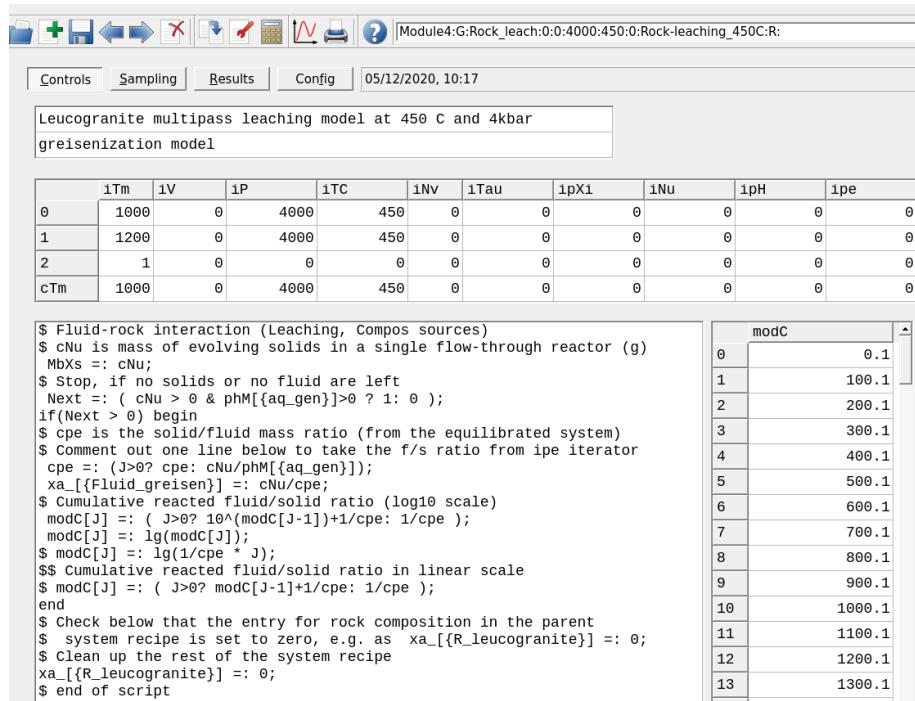

Figure 4.4: Controls window showing the set up for a Process simulation in R mode for the leaching model at 450 °C and 4 kbar.
- Check the **Controls** window; the set up should look like Figure 4.4.